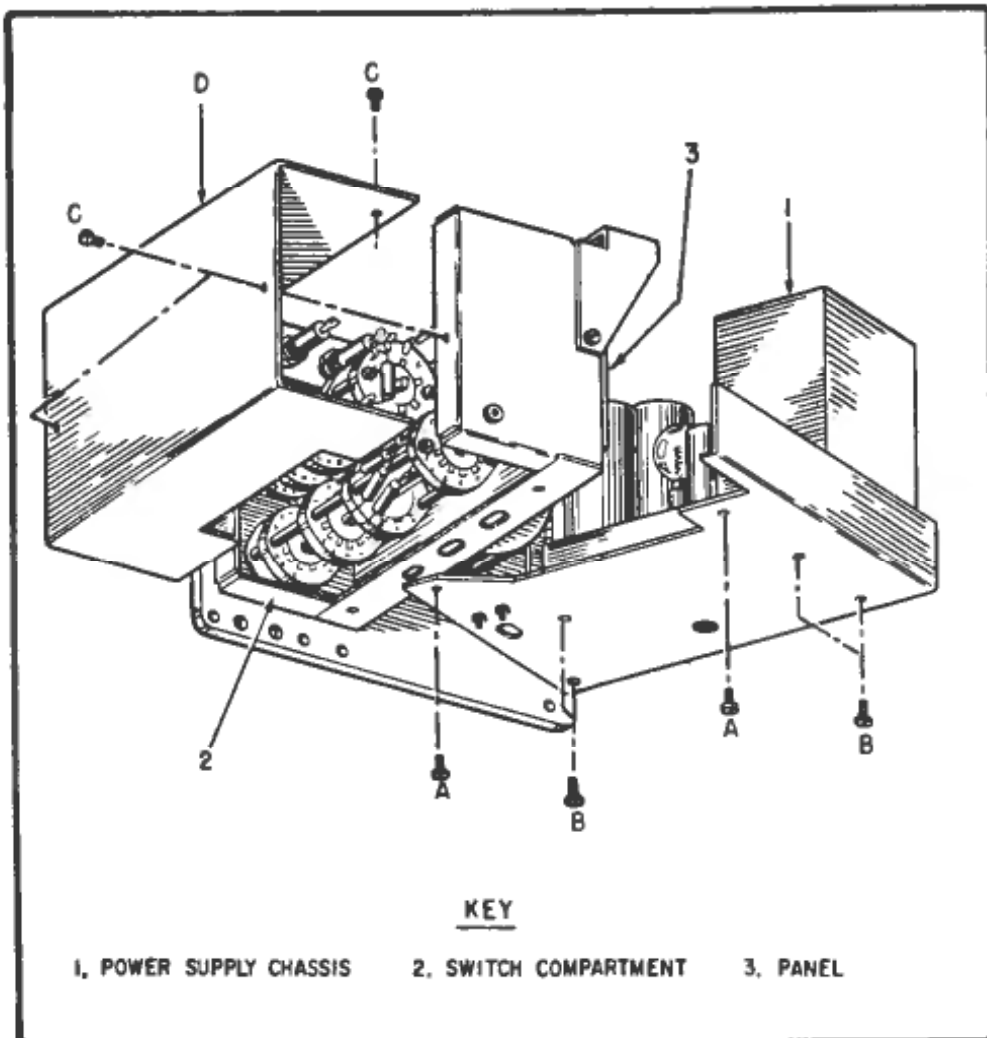

Figure 5-2. Electronic Multimeter AN/USM-116,
(1) Remove two screws (A, figure 5-2) from underside of the chassis assembly. Swing the hinged